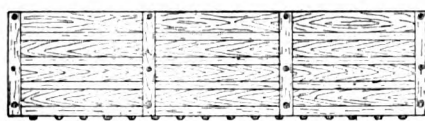
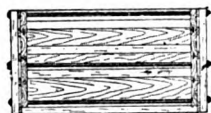
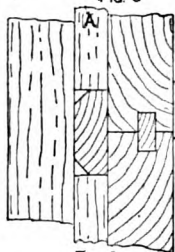
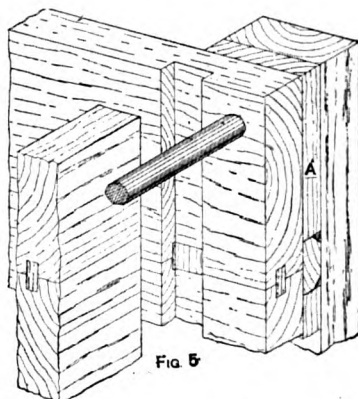

Fig. 1
Fig. 3
Fig. 4.
Fig. 5
**Wooden Frame Aquarium.**—An aquarium about 6ft. long, 1ft. 2in. wide, and 1ft. deep is best constructed in teak, great strength being required. The bottom of the aquarium (Fig. 1) should be formed of 1-in. board, sufficiently wide to allow for the moulding which projects on both sides and ends. This moulding is shown at Fig. 2. The posts should be about 2in. by 2in., and of the shape shown at Fig. 4, where it will be seen that the inner edge is rebated. The bottom ends are tenoned into the bottom board; this joint is shown at Fig. 2. The upper rails, which are 2in. by 1½ in., are fixed to the posts by means of mortise-and-tenon joints (see Fig. 3). The lower rails, which are 1½ in. square, are nailed or screwed to the bottom. A muntin, 2in. by 1½ in., is fitted in between the upper and lower rails on both sides; these must be rebated to receive the glass. All the joints of the woodwork should be put together with the same cement as is used for fixing the glass, and the mortises and tenons should be secured together with wooden pins or brass screws. The glass is held in position in the posts by means of a fillet A (Fig. 4), being screwed on after the glass is inserted in the rebates. For fixing the glass, use red lead and white lead mixed with a little gold size. The edges of the glass should be previously coated with gold size so as to make the
cement adhere better; only sufficient cement should be used to make a firm joint. Remove superfluous cement before screwing in the fillet A, Fig. 4. Plate glass ½ in. or ¾ in. thick will be most suitable for the sides and for the bottom. The woodwork should be given two or three coats of enamel paint.
**Large Wooden Cistern.**—Figs. 1, 2, and 3 show respectively a side elevation, plan, and end view of a cistern, which may be 12 ft. long, 5 ft. broad, and 3 ft. deep. Fig. 4 is a part section of the ploughed and tongued joint of boards, fillet, ledger, and packing pieces A. Fig. 5 is an isometric view of a portion of one corner. The wood used in the construction of the cistern should be at least 2 in. thick. The boards should be jointed and ploughed and tongued together, as shown. The plough groove should be nearer the inside, so as to leave more wood outside to which to nail the fillets. For the sides 9-in. boards may be used, but for the bottom narrow widths (say 4½ in.) will be more suitable. All the joints should be ploughed and tongued and put together with a mixture of white and red lead. The ends should be housed into the sides as shown at Figs. 1 and 5. As a further security against the joints leaking, on the outside fillets about 2 in. by 1 in.